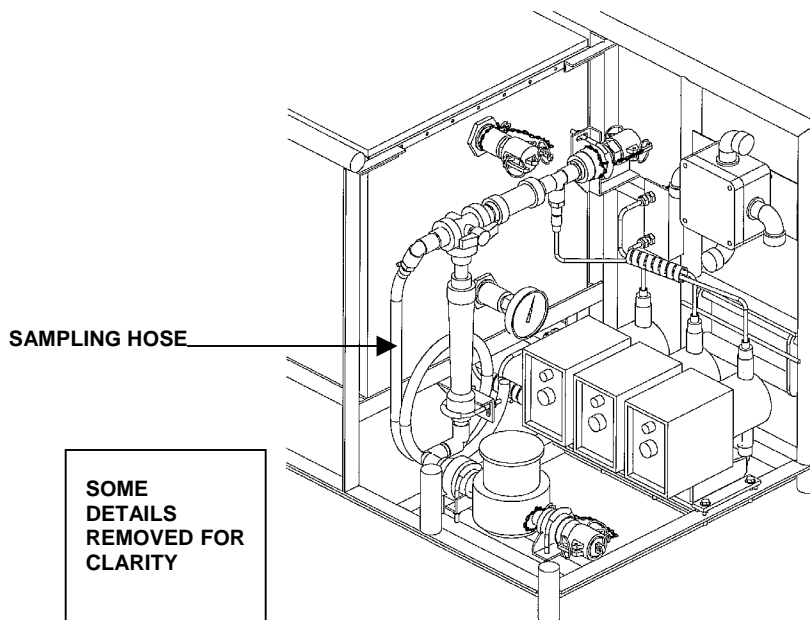

Figure 3. Chemical Module Sampling Hose.
11. Measure the water quality of the second pass product water using the TDS and chlorine meters. The product TDS should be less than 1 mg/liter in double pass mode after the NBC canisters at sampling hose. See Figure 3.